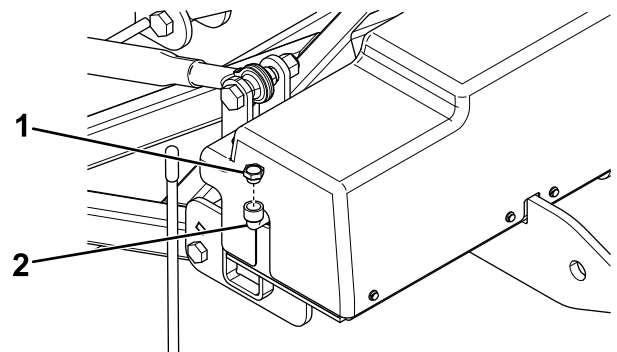

Figure 24
2. Clean the area around the fill cap (Figure 24).
3. Remove the fill cap from the hydraulic reservoir (Figure 24).